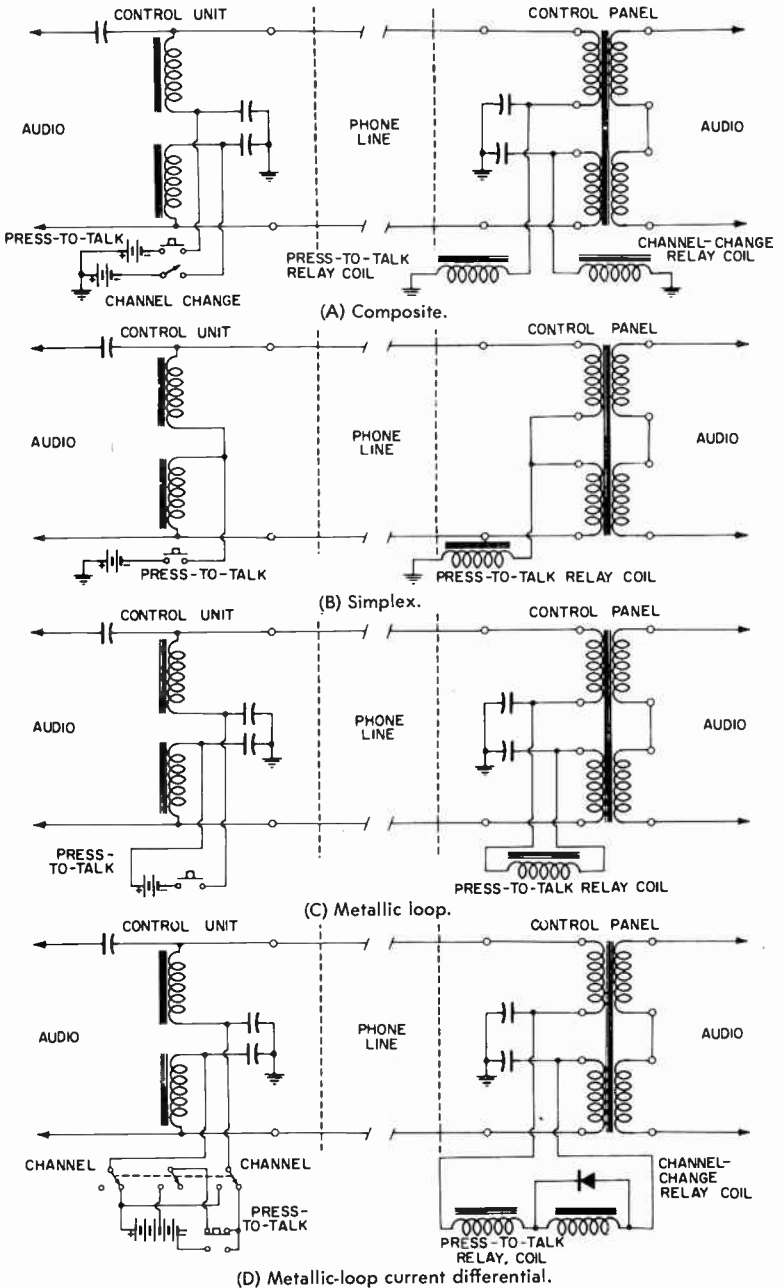
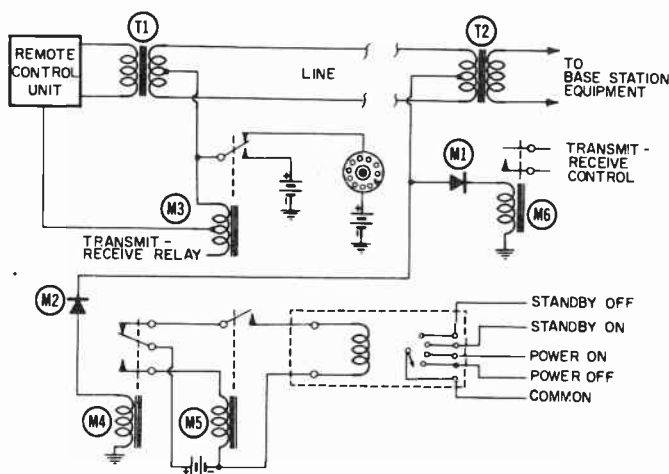
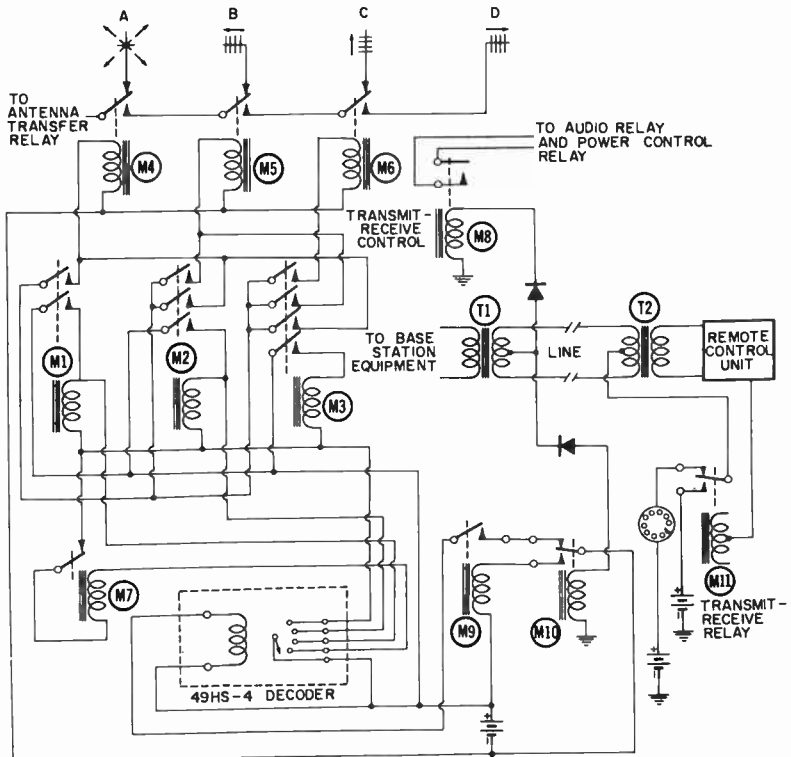

Fig. 6-4. Base-station control circuitry.
Fig. 6-11. Single pair, simplex to ground, for controlling several functions.
Fig. 6-12. Base-station operator selects antenna by dialing proper number.
Fig. 6-4 shows various methods for transmitting audio in both directions sequentially but not simultaneously, as well as a DC control
This can be done—over a two-wire line—on a DC basis to a limited extent, and on a tone (AC) basis to a very broad extent. Fig. 6-4 shows how, on a DC basis, the transmitter can be keyed and the frequency changed. Further functions can be performed by providing a dial at the control point and a selector at the distant station, as shown in Figs. 6-11 and 6-12. In Fig. 6-11, a single pair, simplex to ground, can be used for remote control of several functions at a base station, as well as control of the transmit-receive function and transmission of audio information. In Fig. 6-12, the opera-